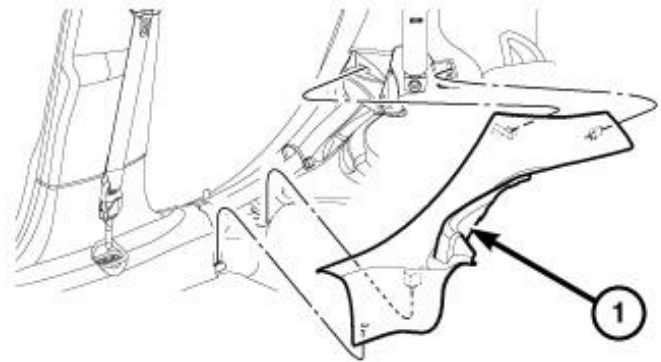

Figure 21 – Rear Door Sill Scuff Panel
8. Using C-4755, disengage the retaining clips securing the door sill scuff panel (1) to the door sill, lower B-pillar and lower C-pillar (Figure 21).
30. Engage the retaining clips securing the door sill scuff panel (1) to the door sill, lower B-pillar and lower C-pillar (Figure 21).